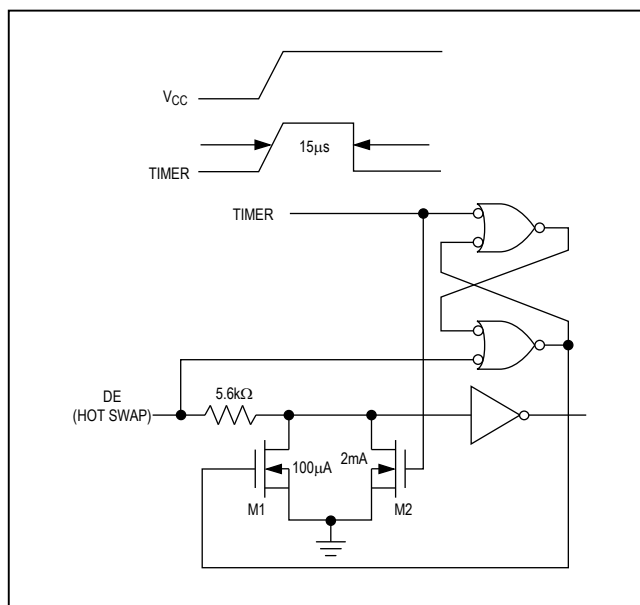

Figure 10. Simplified Structure of the Driver Enable Pin (DE)
At the driver-enable input (DE), there are two nMOS devices, M1 and M2 (Figure 10). When V_{CC} ramps from zero, an internal $15\mu s$ timer turns on M2 and sets the SR latch, which also turns on M1. Transistors M2, a 2mA current sink, and M1, a $100\mu A$ current sink, pull DE to GND through a 5.6kW resistor. M2 pulls DE to the disabled state against an external parasitic capacitance up to 100pF that may drive DE high. After $15\mu s$, the timer deactivates M2 while M1 remains on, holding DE low against three-state leakage currents that may drive DE high. M1 remains on until an external current source overcomes the required input current. At this time, the SR latch resets M1 and turns off. When M1 turns off, DE reverts to a standard, high-impedance CMOS input. Whenever V_{CC} drops below 1V, the input is reset.